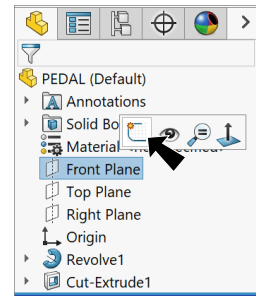

Fig. 11
Step 1. Click **Front Plane**  in the Feature Manager and click **Sketch**  on the context toolbar, **Fig. 11**.